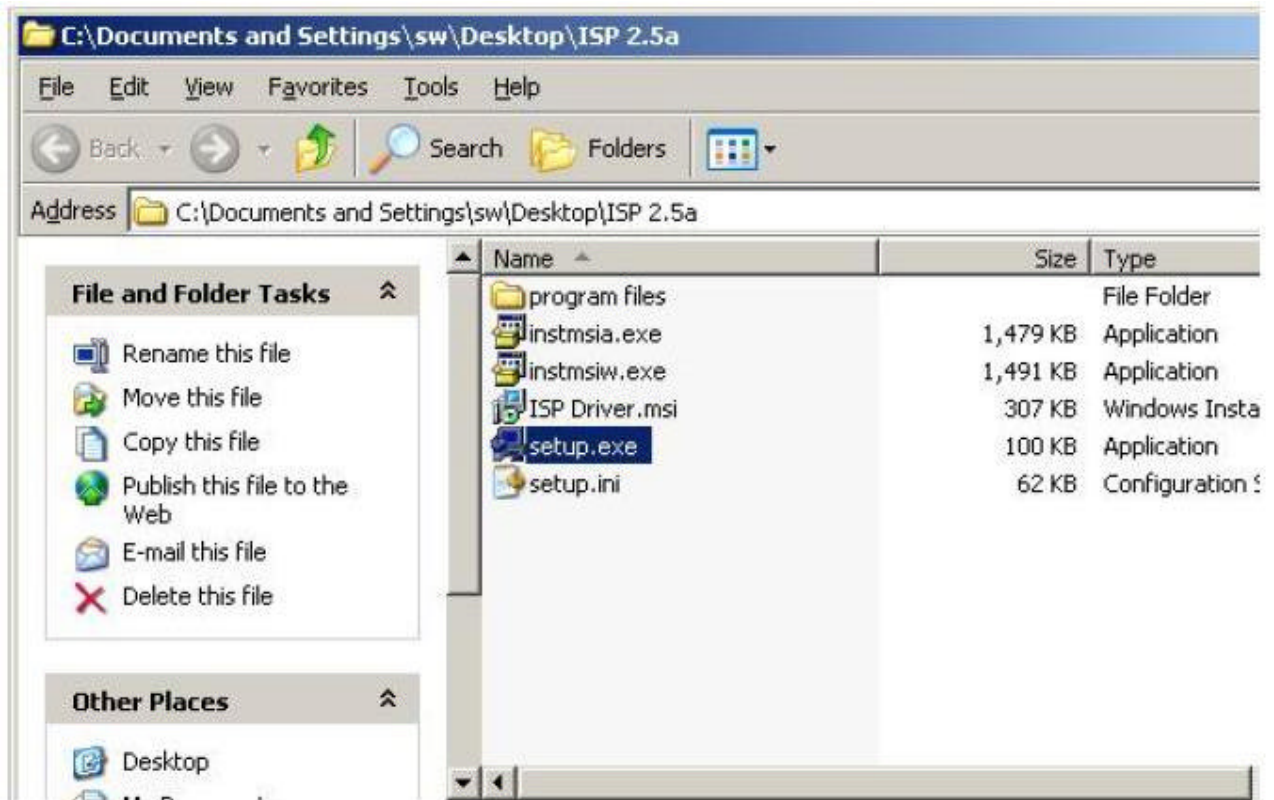

Fig 1.0
1.2 After extracting the ZIP file , the total files list as Fig 1.0 , and double click the file of setup.exe to install.